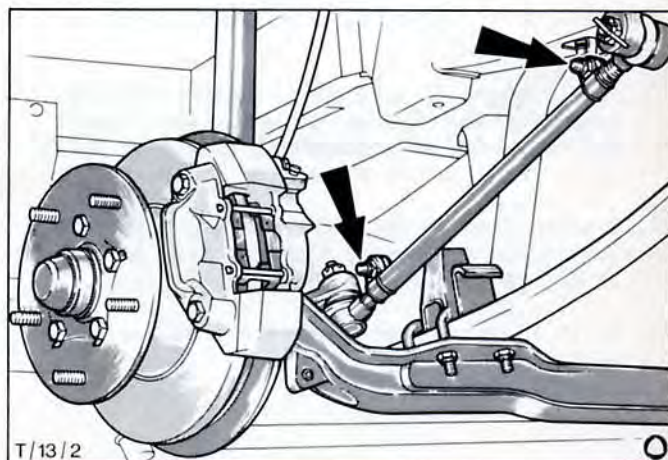

Fig.43. Assemble drag link clamp bolts uppermost with bolt heads towards centre of vehicle.
NOTE: Drag link clamps should be positioned with clamp bolt above the drag link and bolt head towards centre of vehicle Fig.43.
- 11. Tighten clamp bolts, ensure clamp bolts are positioned above drag link and ball joints are at 90° to each other. See Fig.43.